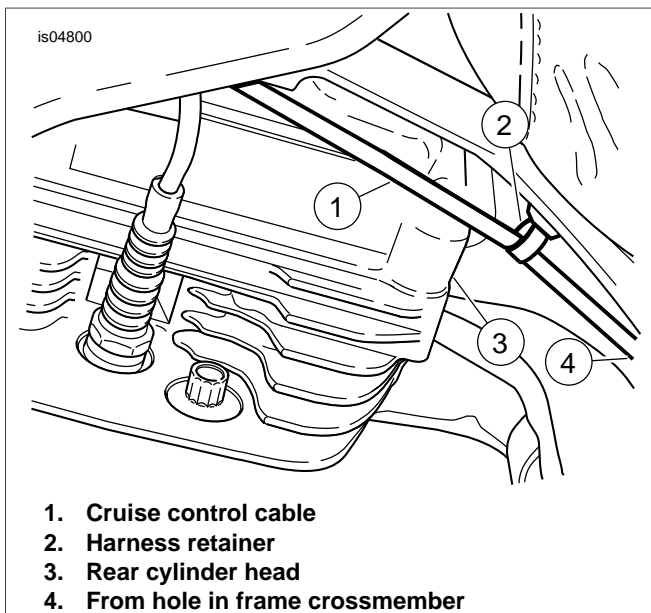

Figure 2. Cruise Control Cable Routing (Left Side View)
4. See Figure 2. While holding cruise control assembly in place near its mounting location, feed the cruise control cable through the hole in frame crossmember plate and route under rear spark plug wire staying on inner side of fuel line components. Carefully curve cable toward the right and continue routing up under the fuel tank and over the top of the engine stabilizer bracket, then down between cylinder heads. Leave in place temporarily.